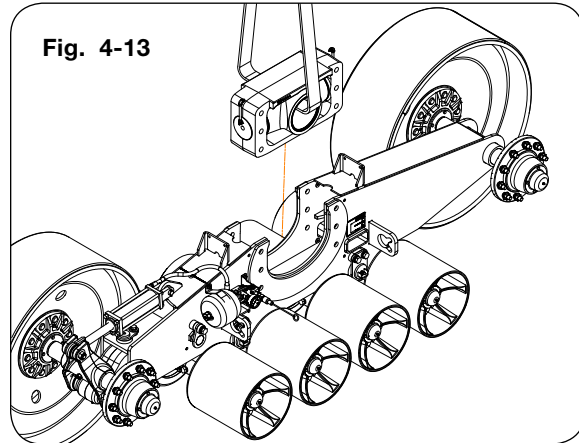

Fig. 4-13
13. Using a safe lifting device rated for 500 lbs., remove the trunnion assembly (Fig. 4-13).